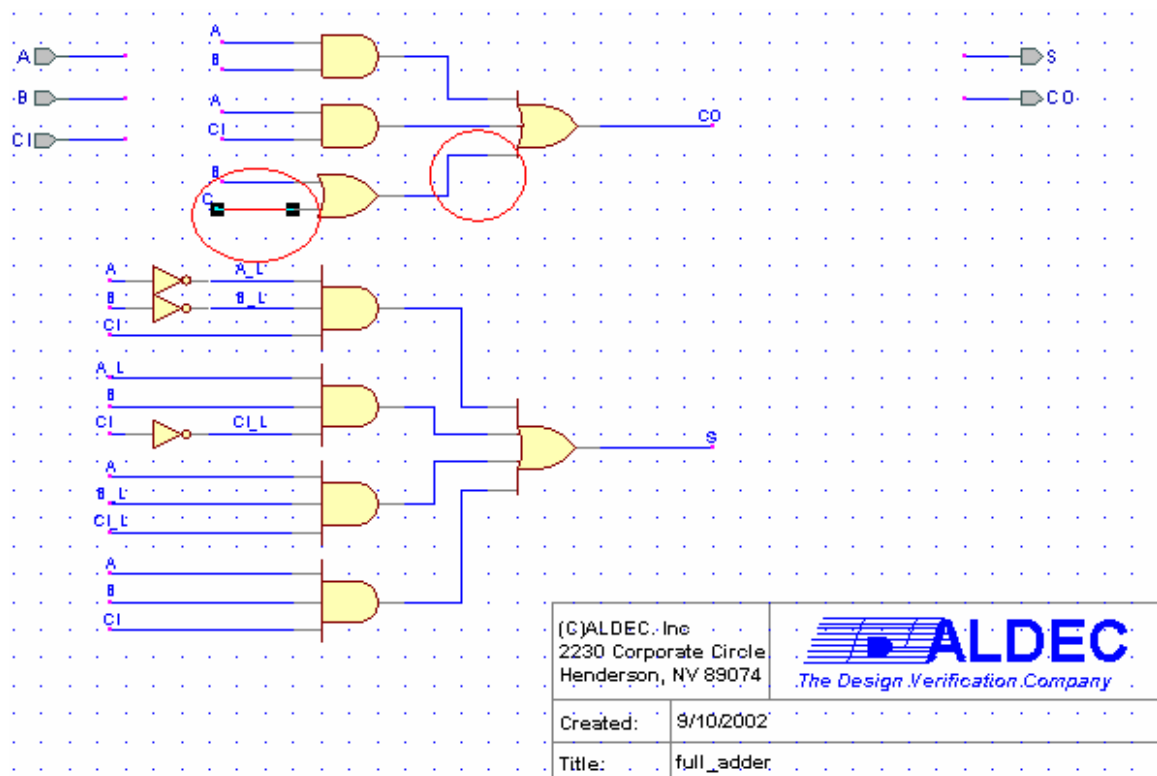

Figure 42
2. Clicking on the first line took us to the broken connection on the 3-input OR gate. The part in question was highlighted in a red box (not shown here). Therefore, we simply reestablished the connection by dragging the hanging wire to the 3-input OR gate port (shown fixed in Figure 42).
3. The second warning showed that net 'C' was without a source. Again, we clicked this hyperlink, and it took us to our schematic and highlighted the wire named 'C' in red (see Figure 42). The connection looked fine, but notice that we have no terminals by the name of 'C'. The terminal we wanted to connect from was 'CI'. This kind of mistake is common when using naming connections, and Active-HDL is good at alerting us to this mistake.